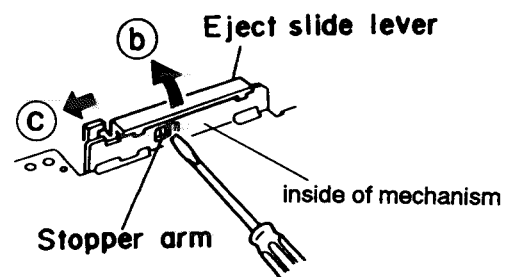

Fig. 2-36
■ **Eject slide lever (Fig. 2-36)**
1. Place the cassette mechanism back side frontward and disengage the stopper arm ⑥ of the Eject slide lever by pressing it inwards through the opening of the chassis with a small screwdriver as shown in Fig. 2-36.
2. Disengage the Eject slide lever in the direction of arrow ③.